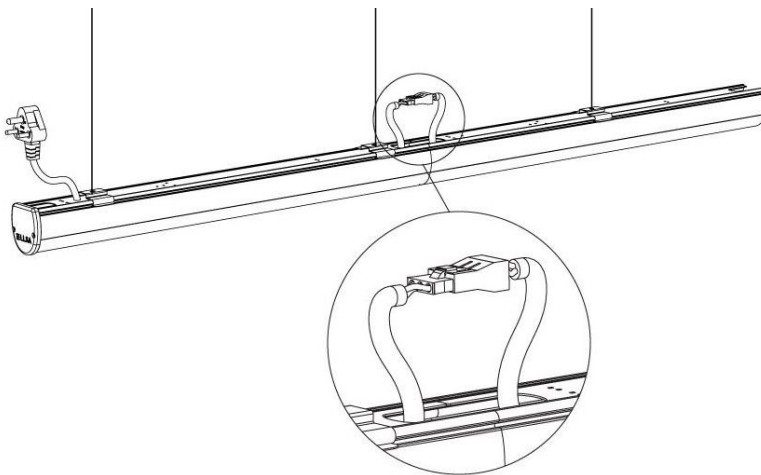

FIG. 3
- Connect the Wago 220V AC connector, above the extrusion. Fig 3